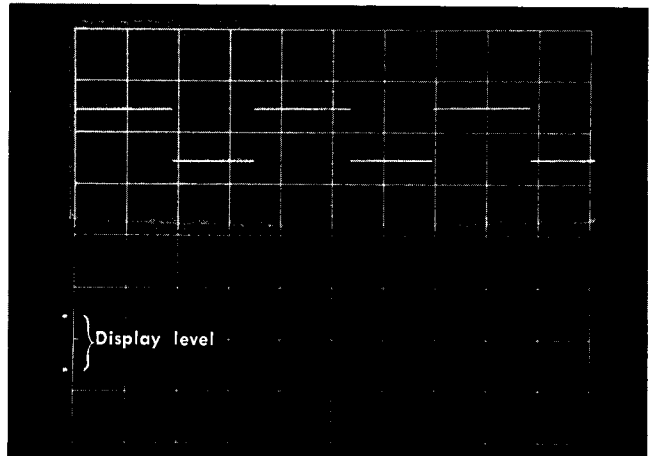

Fig. 2-3. Use of the LOCATE button for positioning the display level while the sweep is held off.
6. With the LOCATE button still held in, turn the amplifier unit Position control to position the two dots to the left edge of the lower storage screen (see Fig. 2-3).